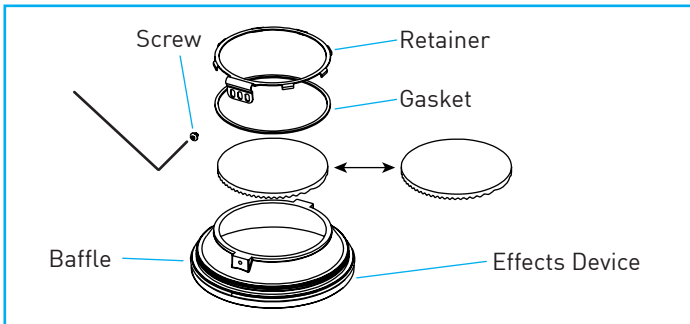

Fig.23
C. To change lens / film, remove lens retainer and gasket by loosening and removing screw. Insert preferred lens / film in proper orientation, securing with lens retainer / gasket and replacing and tightening screws "Fig.23".